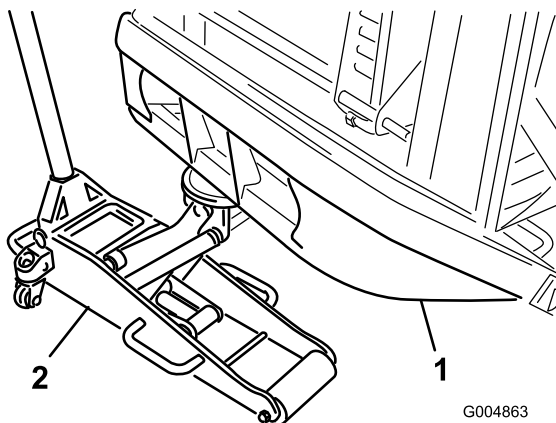

Figure 97
4. Position a suitable floor jack under the rear bumper tube and raise the rear tires off of the ground (Figure 97).